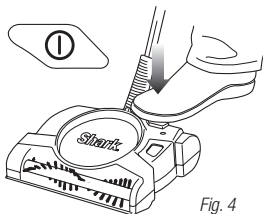

Fig. 4
- 1 Press the power button to start the unit. When finished cleaning, press the power button again to turn the unit off. (Fig. 4)